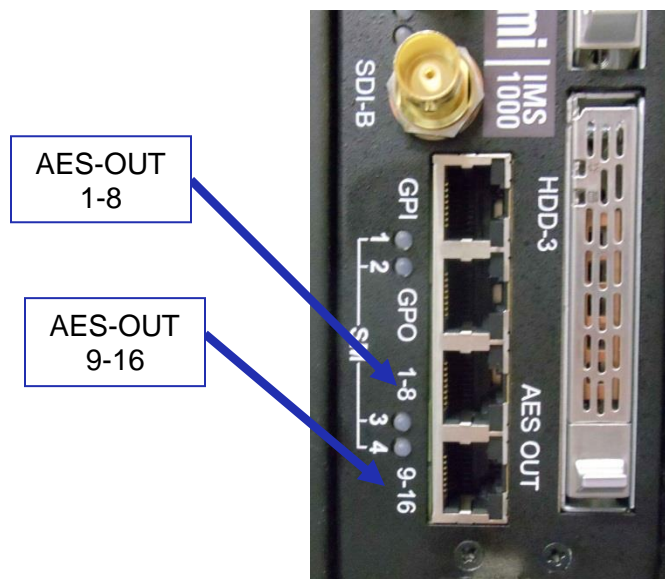

Figure 72: Audio Connectors
- Plug one shielded CAT5 or CAT6 cable end into the connector labeled AES-OUT 1-8 on the IMS1000 board (Figure 72).
- Take another shielded CAT5 or CAT6 cable and plug the end into the connector labeled AES-OUT 9-16 (Figure 72).